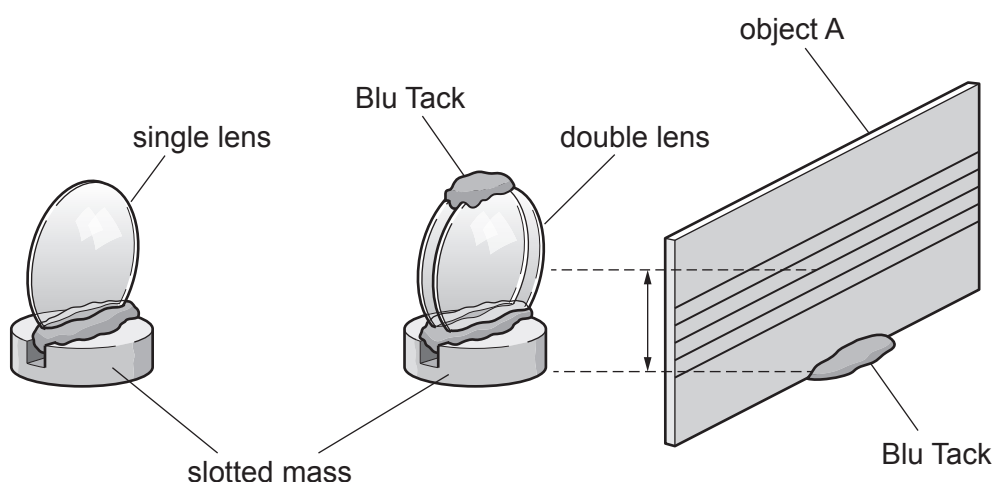

Fig. 2.1
1. As shown in Fig. 2.1, a single lens should be mounted on one of the slotted masses using a piece of Blu Tack so that the lens is in the centre of the slotted mass and the plane of the lens is parallel with the slot of the slotted mass. In a similar way, the other two lenses should be mounted together on the other slotted mass so that they touch at the centre. An extra piece of Blu Tack should be used to fix these two lenses together at the top.
2. Object A may be made using a piece of rigid white card approximately 15 cm × 10 cm. Five horizontal parallel lines, 5.0 mm apart, should be marked on the card using a fine tipped (0.5 mm) pen. The centre of the five lines should be approximately level with the centre of the lens. A small piece of Blu Tack should be attached to one end of object A so that it is able to stand vertically on the half-metre rule without falling over as shown in Fig. 2.1.